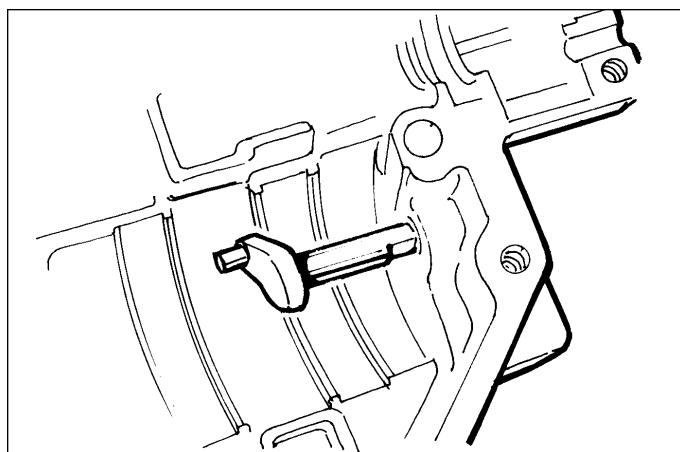

Figure D-26. Install Displacement Control Shaft
1. Install the displacement control shaft. See Figure D-26.